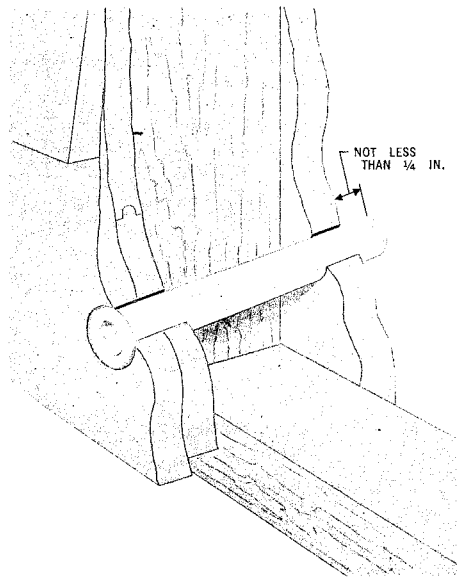

Fig. 18 — Placing Tube
**20.01** Use plastic tubes at building entrance holes for drop wire where fused protection is required and the wire passes through a flammable surface. Place tube as shown in Fig. 18. Cut plastic tubes with a hack saw or diagonal pliers. Do not use split tubes at entrance holes.